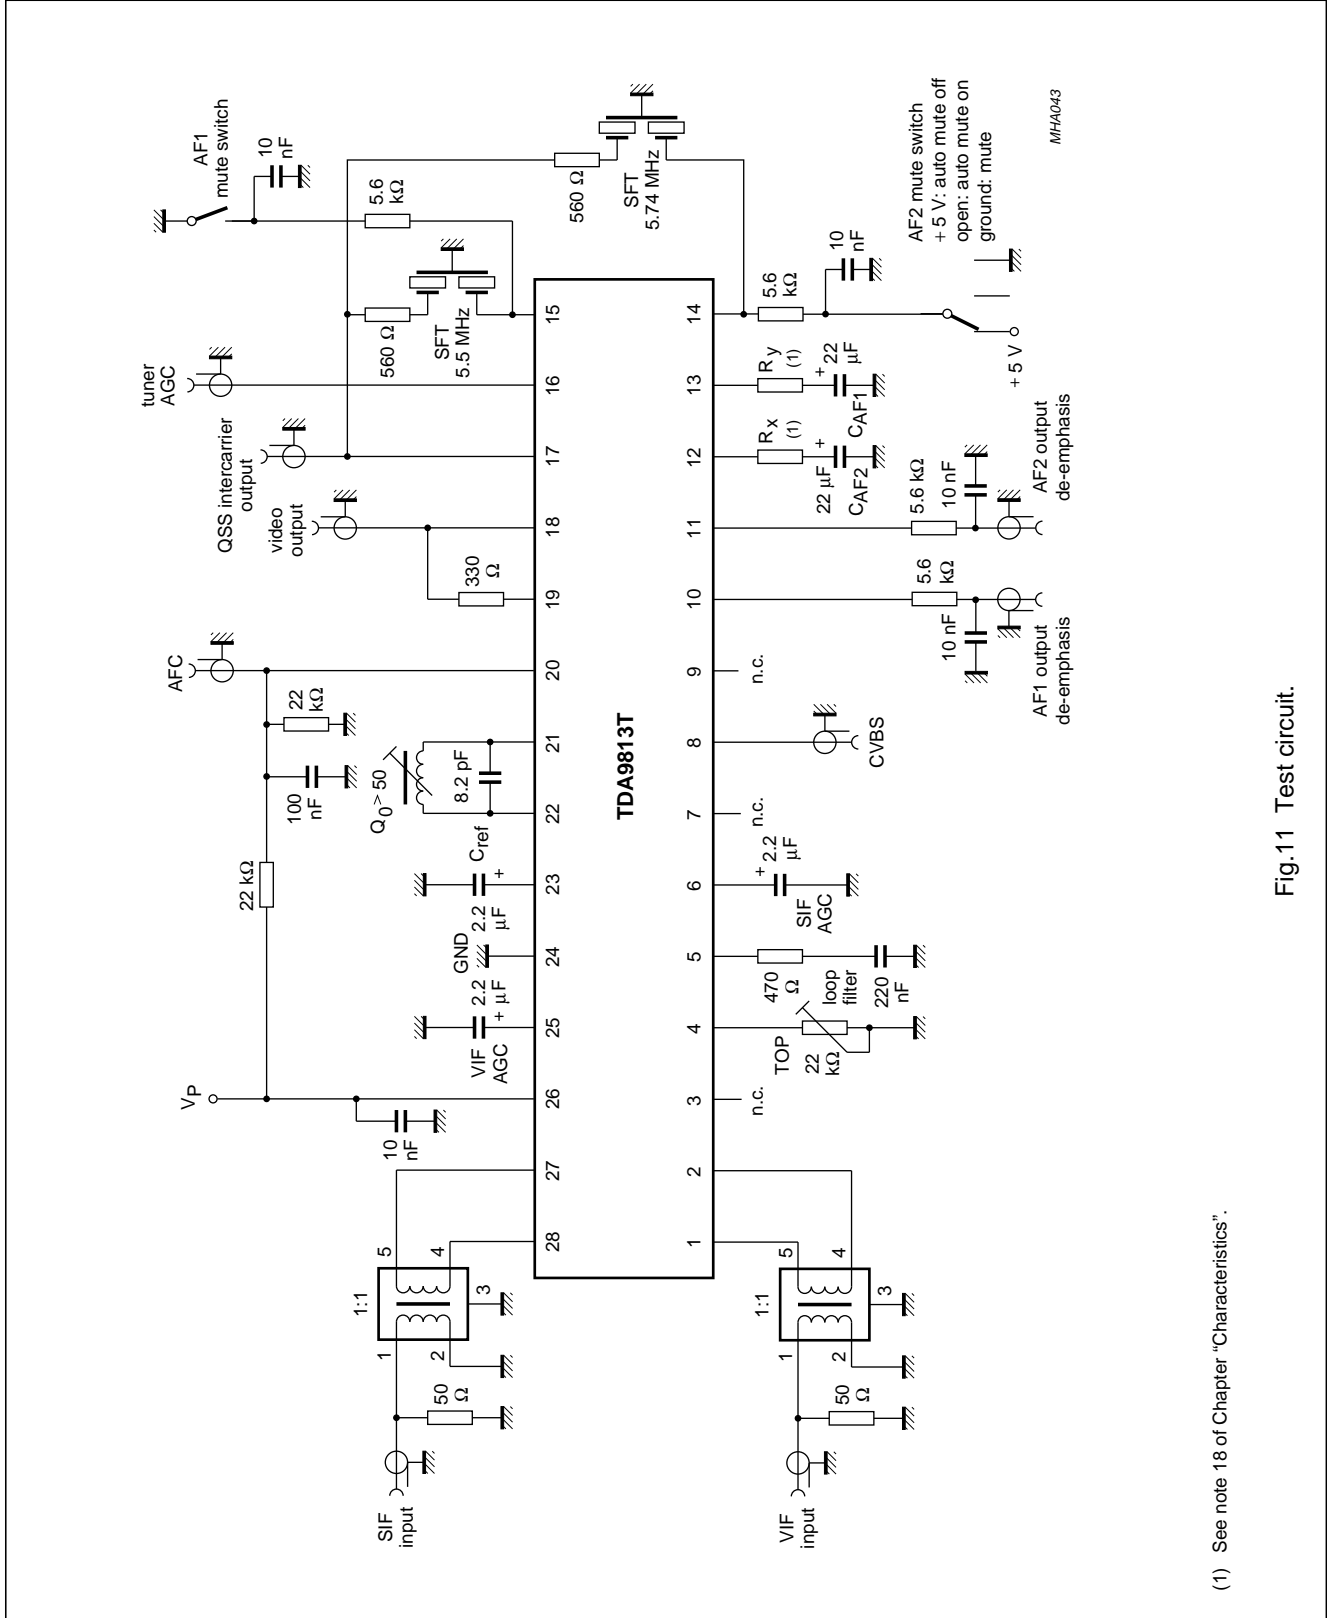

Fig.11 Test circuit.
- 18. Measured with an FM deviation of 27 kHz the typical AF output signal is 500 mV RMS (R_x = R_y = 0 Ω; see Fig.11). By using R_x = R_y = 470 Ω the AF output signal is attenuated by 6 dB (250 mV RMS) and adapted to the stereo decoder family TDA9840. For handling an FM deviation of more than 53 kHz the AF output signal has to be reduced by using R_x and R_y in order to avoid clipping (THD < 1.5%). For an FM deviation up to 100 kHz an attenuation of 6 dB is recommended with R_x = R_y = 470 Ω.
- 20. In the event of activated auto mute state the second FM-PLL oscillator is switched off, if the input signal at pin 14 is missing or too weak (see Fig.11). In the event of switching the second FM-PLL oscillator on by the auto mute stage an increased DC jump is the consequence. Note, that noise at pin 14 disables the mute state (at low SIF input signal), but this will not lead to false identification of the used stereo decoder family TDA9840.
- 23. The PC/SC ratio at pins 1 and 2 is calculated as the addition of TV transmitter PC/SC ratio and SAW filter PC/SC ratio. This PC/SC ratio is necessary to achieve the S/N(W) values as noted. A different PC/SC ratio will change these values.